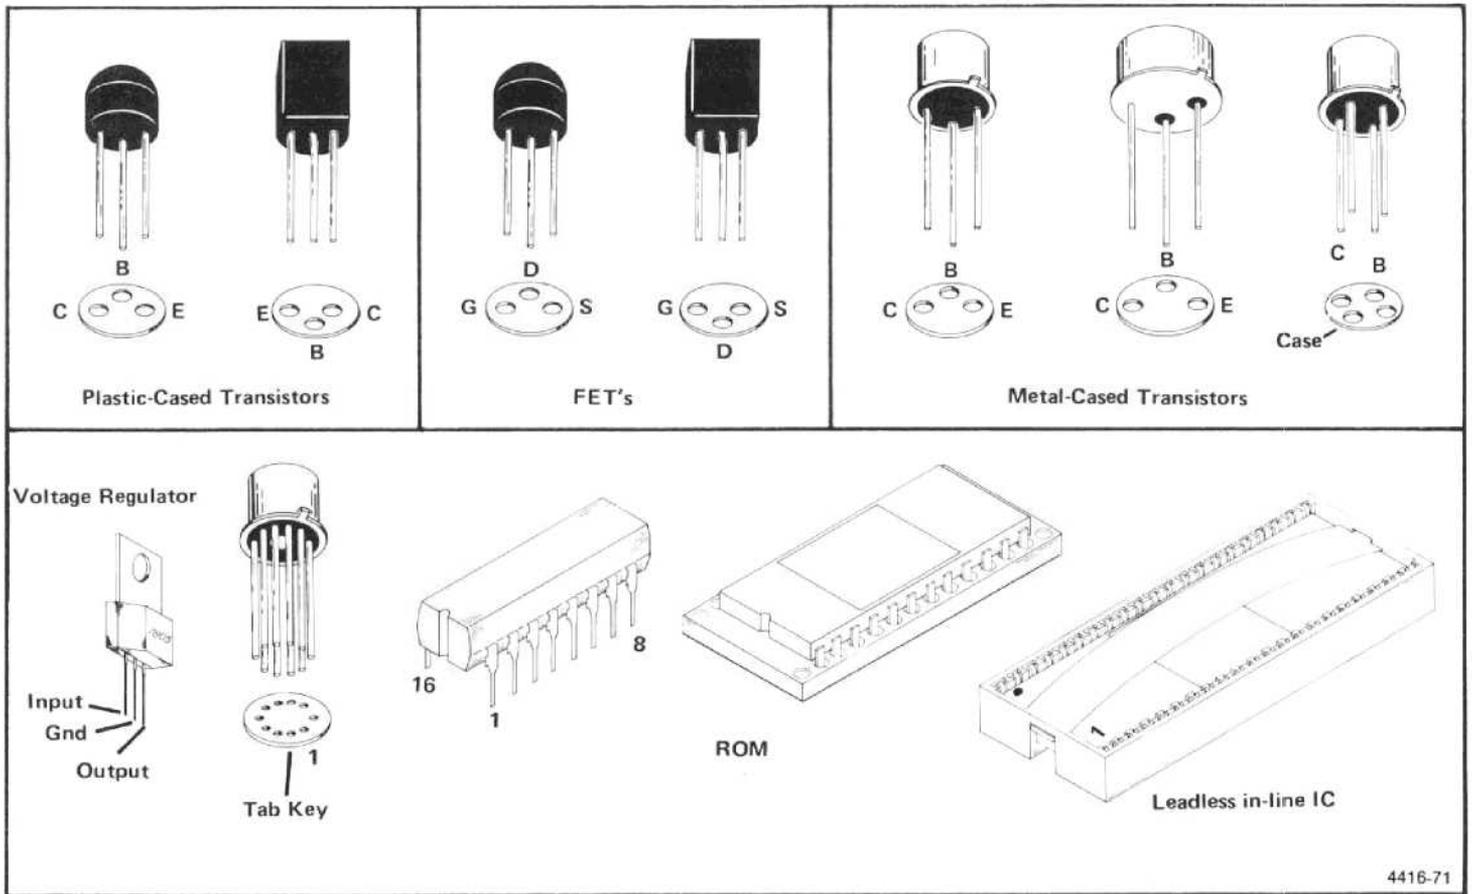

Figure 6-1. Electrode configuration for semi-conductor components.
3. Use only good components for substitution. Be sure the new component is inserted into the board properly before soldering. Refer to the manufacturer's data sheet or Figure 6-1 for IC and transistor lead configuration. IC sockets have a square or rectangular socket to identify pin 1 of the device.